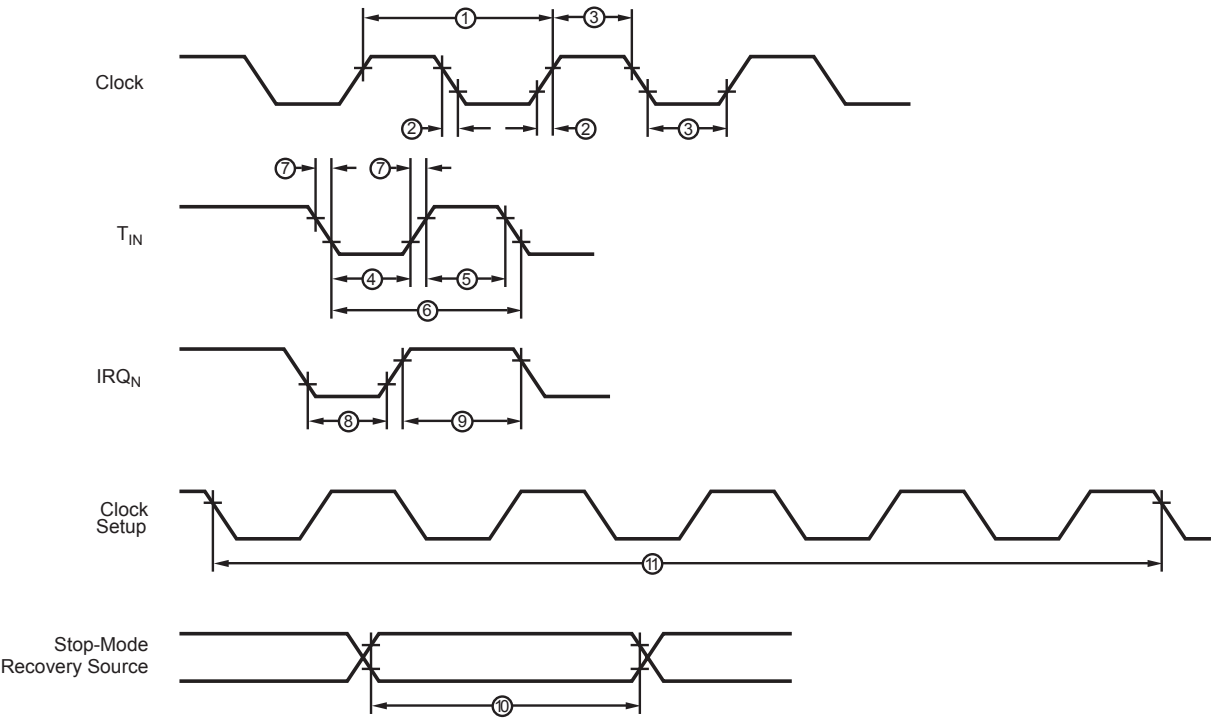

Figure 40. AC Timing Diagram
Figure 40 and Table 61 on page 128 describe the Alternating Current (AC) characteristics.